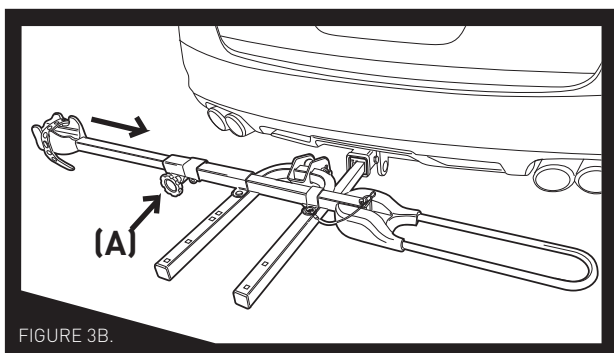

FIGURE 3B.
1. Loosen red tightening knob (**Fig. 3B - "A"**).